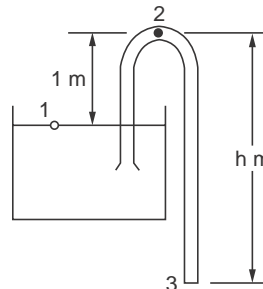

Figure E. 6.18
- E 6.18.** In the setup of siphon for water flow, shown in Fig. E. 6.18, determine the value of 'h' and also the pressure at point 2, if velocity at 3 was 11.7 m/s. **(8 m, 22.8 kPa ab)**